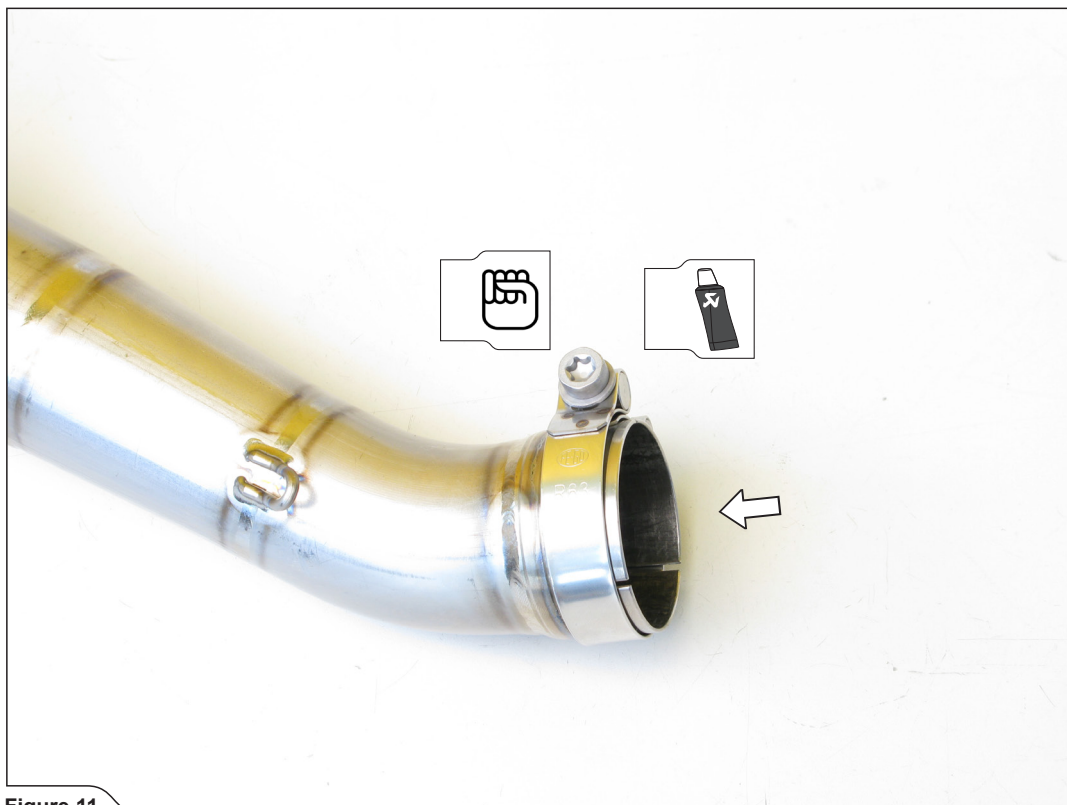

Figure 11
3. Correctly orient and install the clamp onto the link pipe's inlet (**Figure 11**).